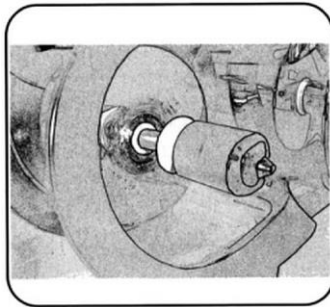

Fig. 36
7. Install the spiral by pressing gently and deeply, as shown in Fig. 36 (c and d).
8. Then moisten the spiral gaskets with water (Fig. 36)